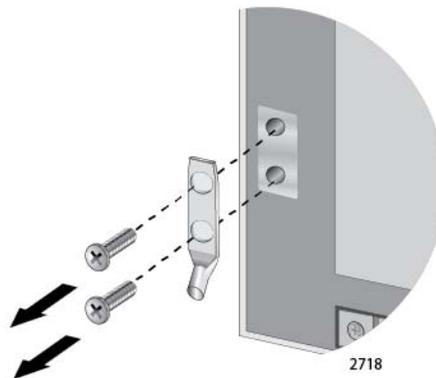

Figure 42. Removing the Grounding Lug
2. Remove the two screws that secure the grounding lug to the rear panel of the chassis, as shown in Figure 42.